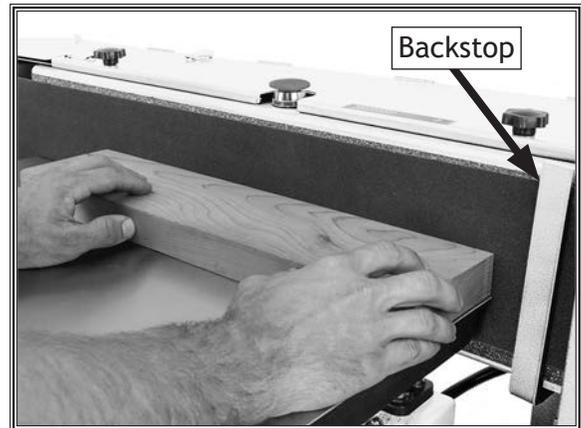

Figure 24. Typical edge sanding operation.
2. Support the workpiece against the backstop, and slowly feed workpiece into moving belt, as shown in **Figure 24**.